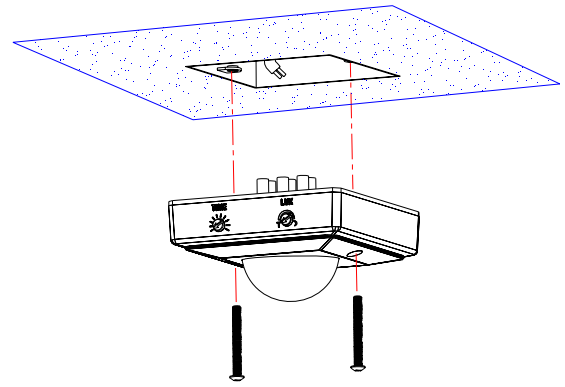

FIGURE 5
- (4) Fit the main body to the wall box of the ceiling and secure it with two fixing screws provided. (FIGURE 5)